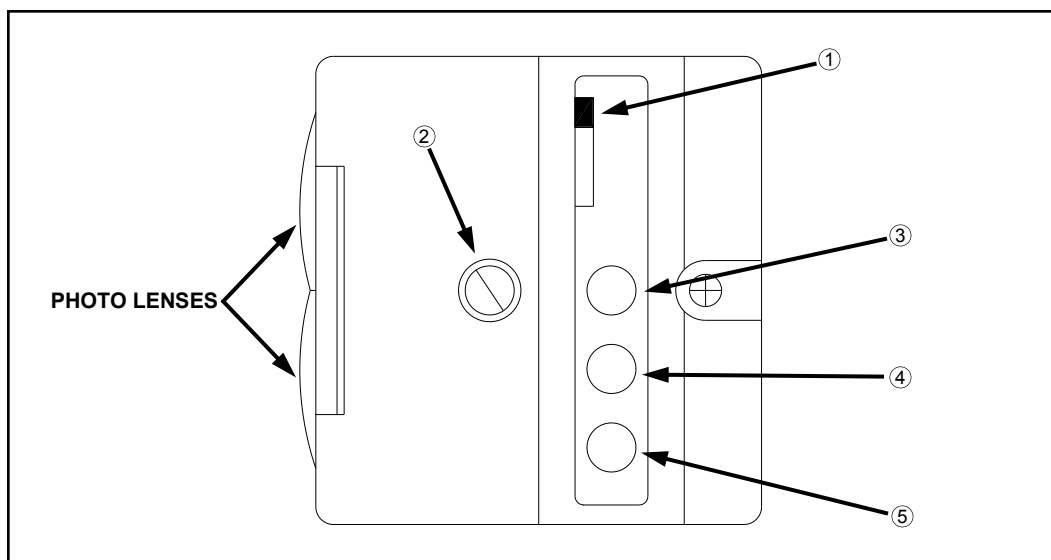

FIG 5.57
The upper and lower LS photolights (fig. 5.55) have L.E.D. lights (fig. 5.57) that indicate their operational status.
**LT/DK SWITCH** – Light/Dark switch on photolight (fig. 5.57, item 1) changes the activated condition of green L.E.D. (see below) from *ON* (“LT”) to *OFF* (“DK”). Switch does not affect the functional operation of the light, only how it is displayed. Switch should be set to “LT”.
**SENSITIVITY ADJUSTMENT SCREW** – Sensitivity adjustment screw (fig. 5.57, item 2) should always be set to maximum.
**YELLOW L.E.D.** – Yellow L.E.D. (fig. 5.57, item 3) indicates power on.
**GREEN L.E.D.** – Green L.E.D. (fig. 5.57, item 4) indicates output energized (sending a signal to Tassel-tron® box, opening the raise or lower stack valve).
**RED L.E.D.** – Red L.E.D. (fig. 5.57, item 5) indicates photolight is receiving reflected signal.